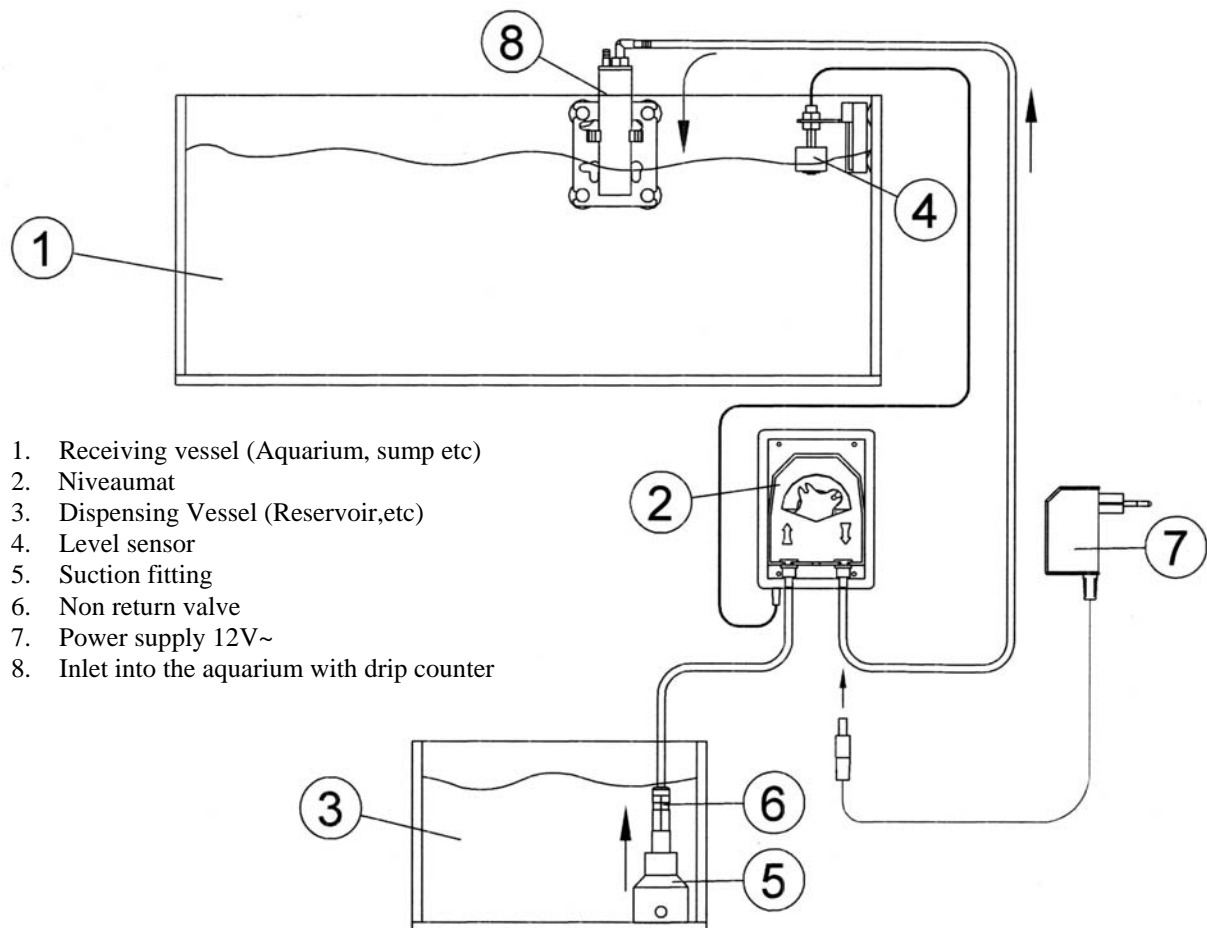

fig 1: Installation method for dosing from a dispensing vessel,
The Niveumat comprises the following parts (fig 1)
- The pump is self priming and should be mounted above the water level of the liquid storage tank (see fig 1).
- The outlet should always be positioned above the aquarium or sump. If the pump stops with the drive axle in the horizontal position then the pump will not act as a non return valve. The air gap between the outlet hose and water prevents aquarium water being syphoned back into the liquid storage tank (see fig 1).
- The non return valve (6) must be placed in the inlet fitting (5 of the pump. This prevents the pressure tube emptying and ensures that the same volume is dosed during each operating cycle (see fig 1).